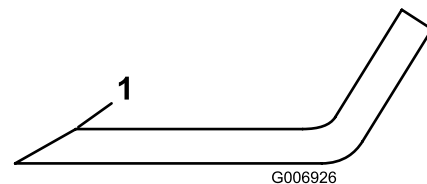

Figure 71
3. Inspect the cutting edges of all blades. Sharpen the cutting edges if they are dull or nicked. Sharpen only the top of the cutting edge and maintain the original cutting angle to make sure of sharpness (Figure 71). The blade will remain balanced if the same amount of metal is removed from both cutting edges.